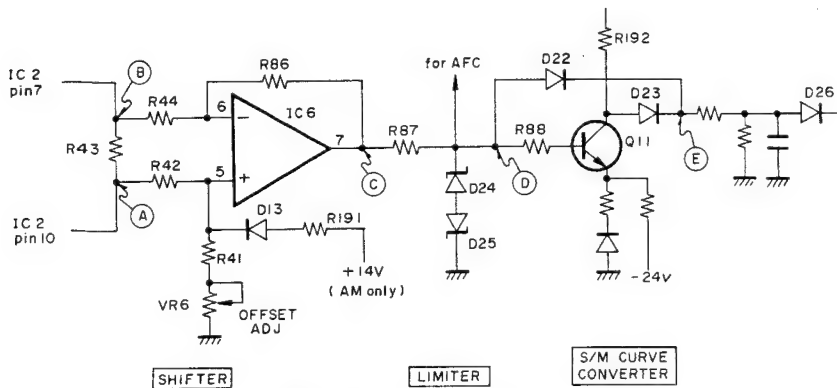
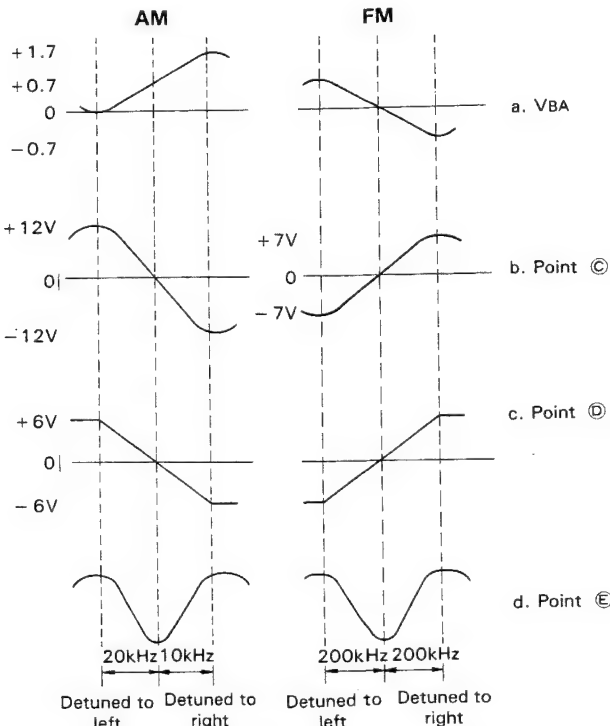

Fig. 7 S-Curve Detector
Fig. 8 Voltages at Each Point in Figure 7
This circuit detects the S curve signal and passes through the ± 6 V limiter where the AFC signal is obtained, then the S curve signal is converted into the M curve signal to detect the correct tuning point. Potential changes at points (A)~(E) shown in figure 7 are shown in figure 8.
The S/M curve converter is provided to detect the correct tuning point (0 V cross point of S curve) exactly. Q11, D22 and D23 change their states as shown in table 4 according to the polarity of the signal at point (D), and the output waveform is as shown in figure 8-d. This signal is applied to the base of Q12 through D26.